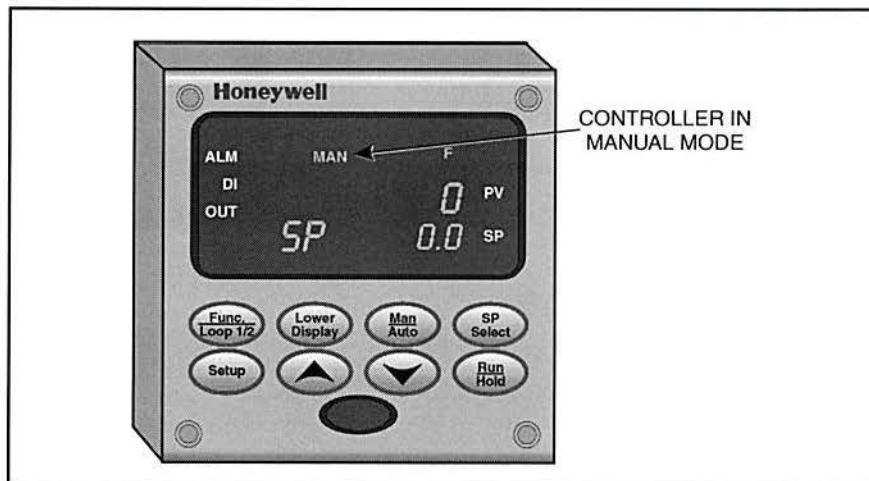

Figure 27. Controller in Manual Mode
- 3. If necessary, press the **Man/Auto** key until “MAN” appears in the upper left portion of the display, indicating that the controller is in manual mode, as shown in figure 27.